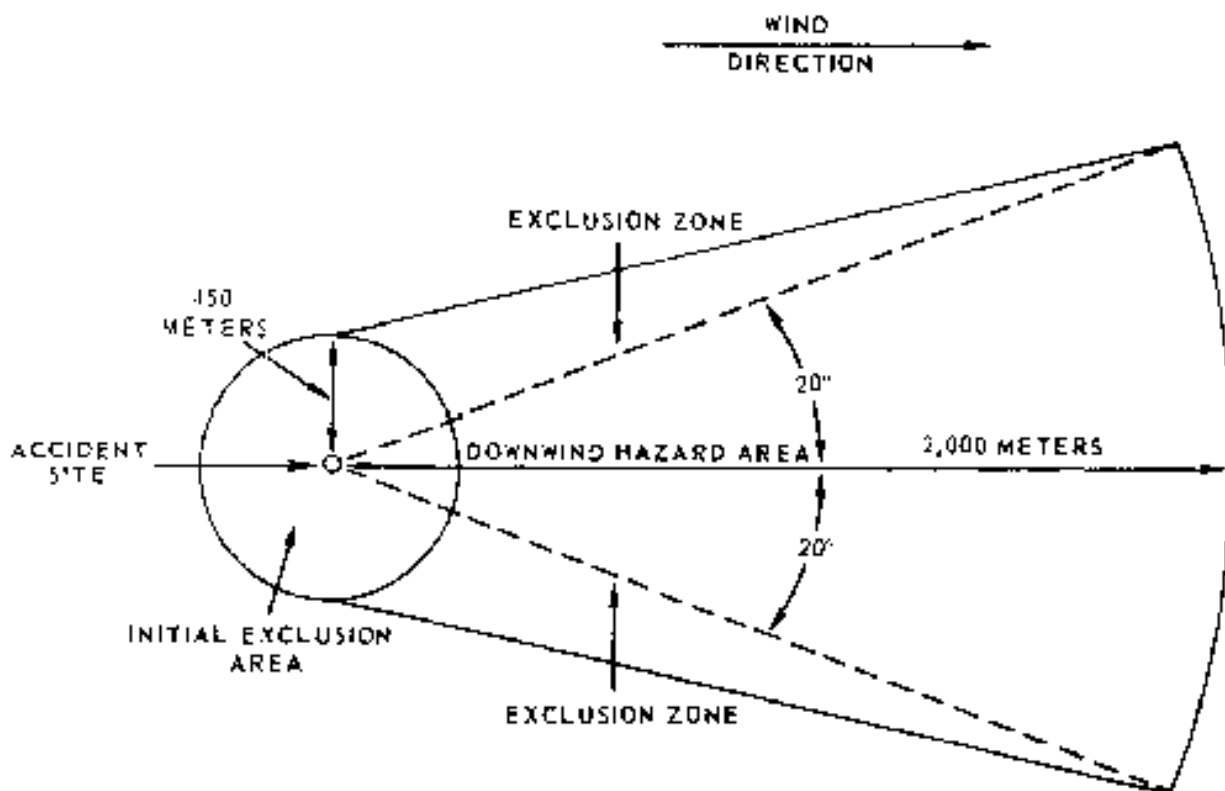

Figure 3. Initial Hazard Area
- **Exclusion Area.** The initial exclusion area is that area inside a 450 meter radius circle around the accident site. This area (fig. 3) should be marked on an overlay and maintained on the situation map at the command post. Criteria for adjustment of the initial exclusion area is based on the explosive hazard of the munitions in question as determined by the EOD Personnel.
wind direction (total angle of downwind hazard area is 40 degrees). Two buffer zones, extending from the edge of the initial exclusion area, are then drawn to intersect the right and left radial lines as shown in figure 3. All unprotected personnel should be evacuated from this area. The personnel performing the evacuation operations must wear a protective mask.